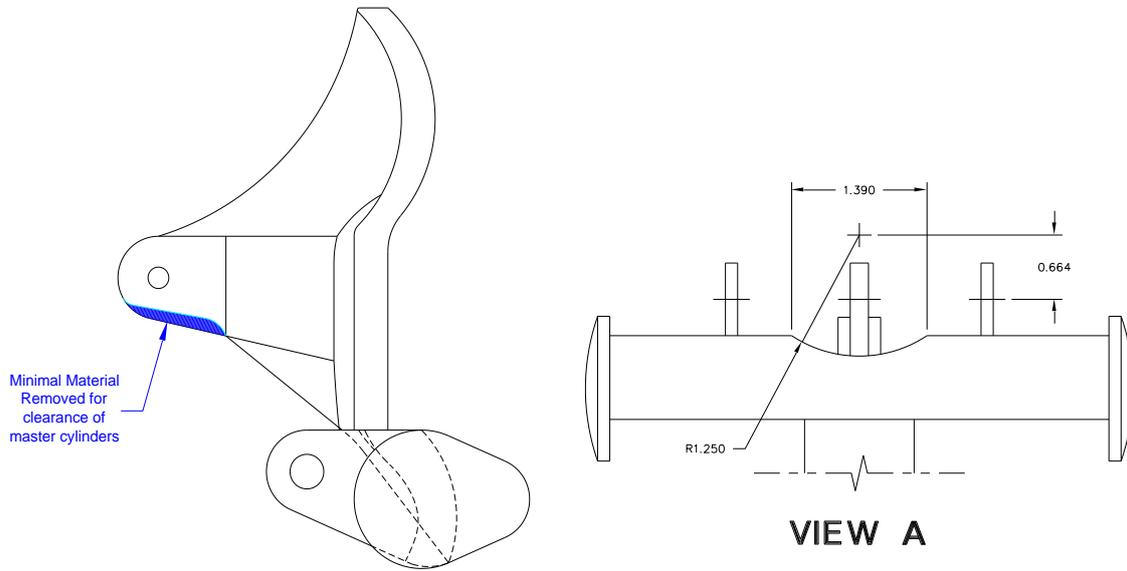

Figure 4
- 2.2. Trim the rudder pedal in accordance with Figure 4.
- 2.3. Machine a radius in each pedal in accordance with Figures 4 to 6.